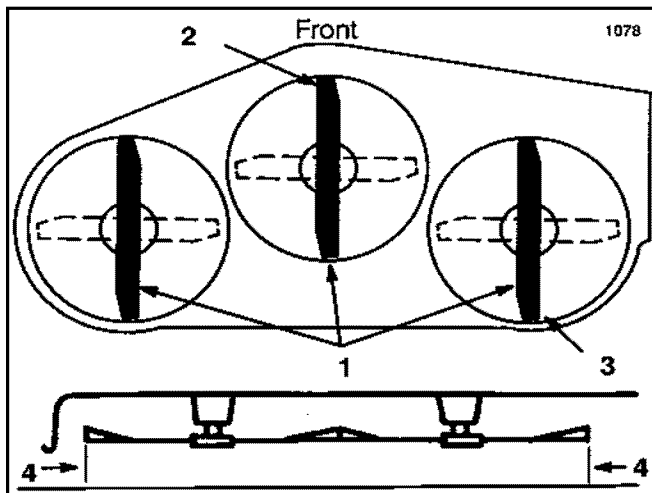

Figure 46
4. Measure from the front blade tip to the ground, mark that tip with tape for future reference and rotate it 180 degrees to the rear and measure from the tip to the ground. If the tip in the front is not 0-5/16 inch (0-8mm) lower than in the rear, adjustment is necessary (Figure 46).